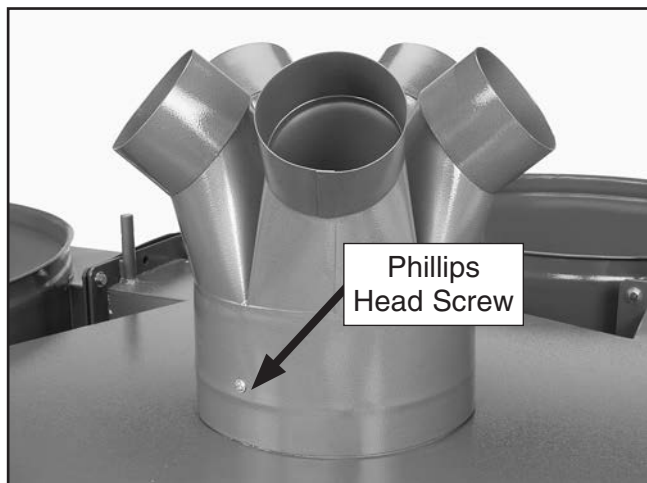

Figure 13. Inlet mounted on impeller housing.
- Attach the inlet to the top of the impeller housing with the #10-24 x 3/8" Phillips head screw, as shown in **Figure 13**.